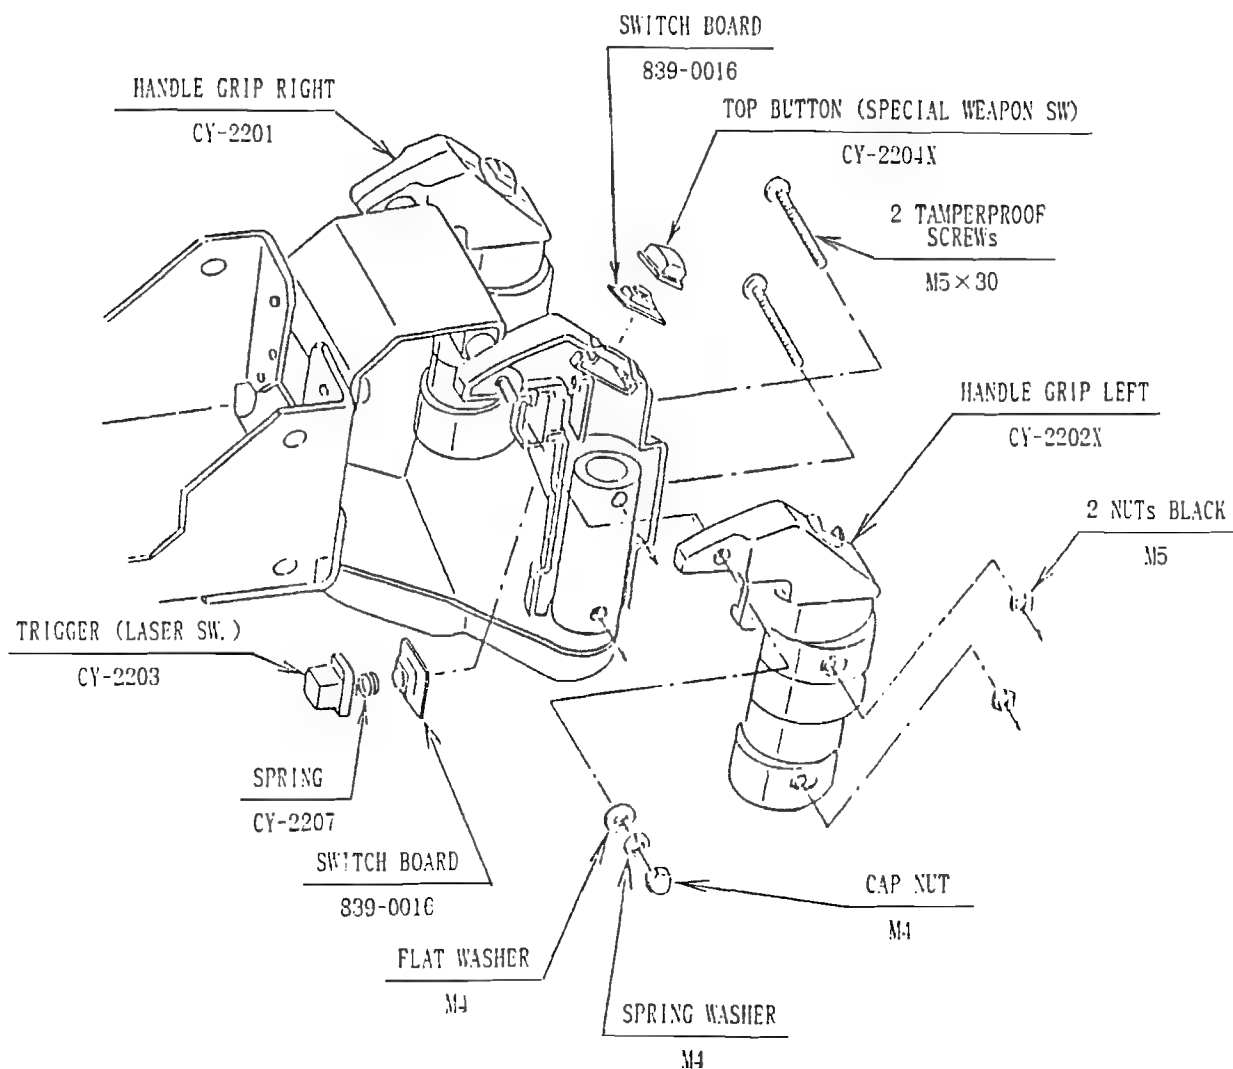

FIG. 5
- ① Take off the CAP NUT, SPRING WASHER and FLAT WASHER (M4), then 2 TAMPERPROOF SCREWS (M5×30) and 2 NUTs black (M5).
- ② Remove the, HANDLE GRIP and replace the SW. BOARD (see FIG.5).